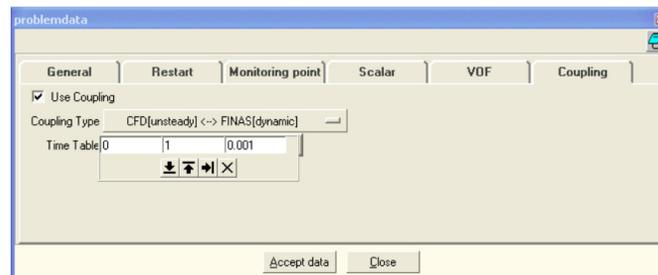
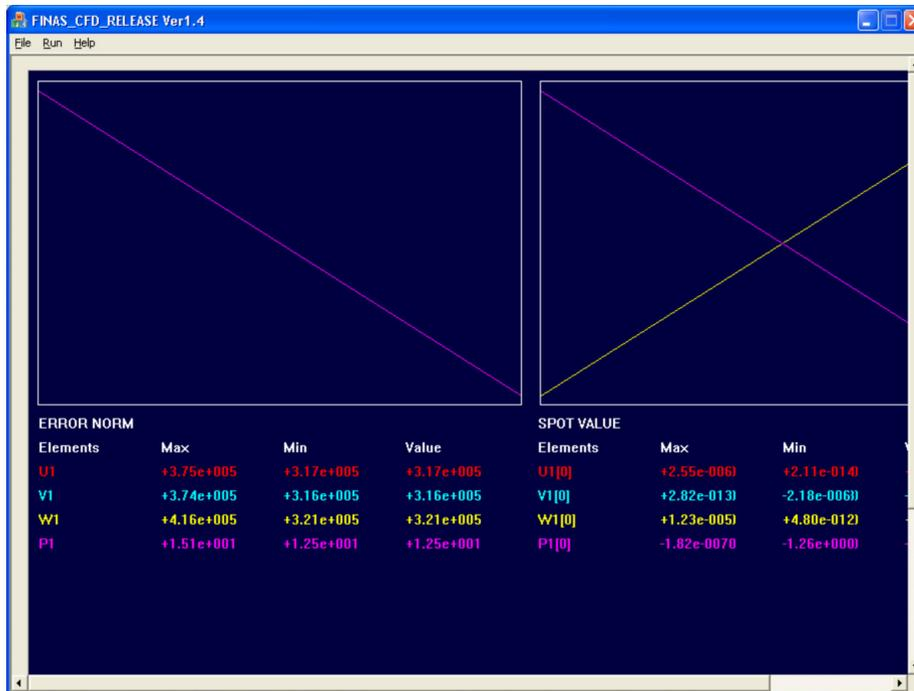

Figure 14: The coupling dialog box showing the Coupling Type and the time step specification
Figure 24: CCFD screen running in conjunction with PFC3D
4. Clicking on any of the **Time table** buttons opens 3 fields. Enter **0** for **start**, **1** for **end**, and **0.001** for the **step** value (Figure 14). Click on **Accept data** followed by **Close** to close the **Problem Data** dialog box.
6. Enter **Continue** in the command window of PFC3D to resume the computation. At pre-set time intervals, defined earlier in the Coupling General dialog box (Figure 14), PFC3D and CCFD exchange information. Use the WINDOW's taskbar to see the CCFD screen displaying the current state of the CFD computation (Figure 24).
7. The computation will stop at the end of 1000 time steps as specified in the **Coupling** tab of the **Problem data** dialog box (Figure 14).